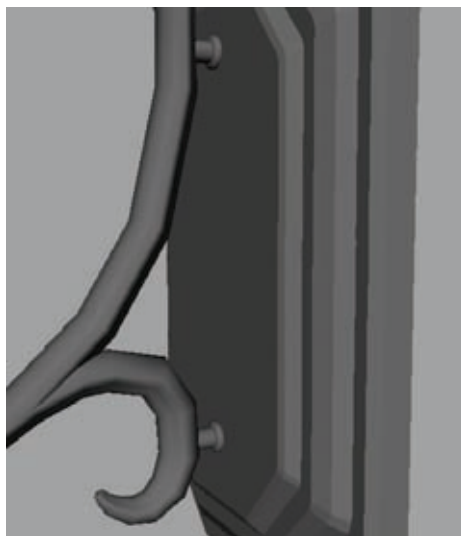

Figure 6.15
- Once you are happy with the shape of the connector shapes, you can create a simple cylinder with a beveled lip to serve as the connection between them and the bracket, like you see in Figure 6.15.